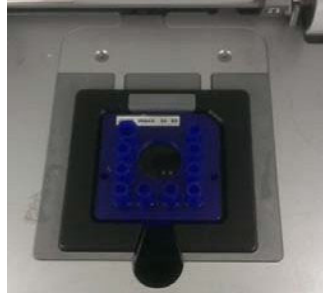

Figure 5. Chip in the LabChip GX Touch/GXII Touch instrument
- 4 Insert the chip into the LabChip GX Touch/GXII Touch instrument (Figure 5) and close the chip door securely.